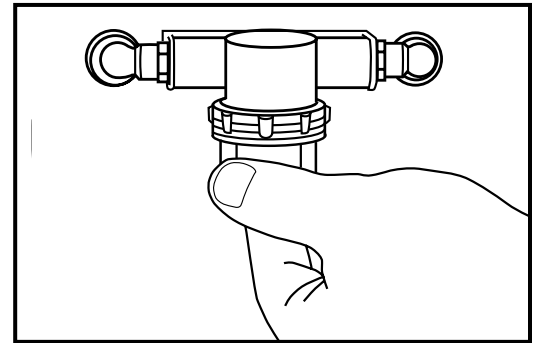

Figure 18
- Remove the filter and cover by unscrewing counter-clockwise (fig. 18).
- Remove the filter and cover by unscrewing them counter-clockwise (fig. 18).